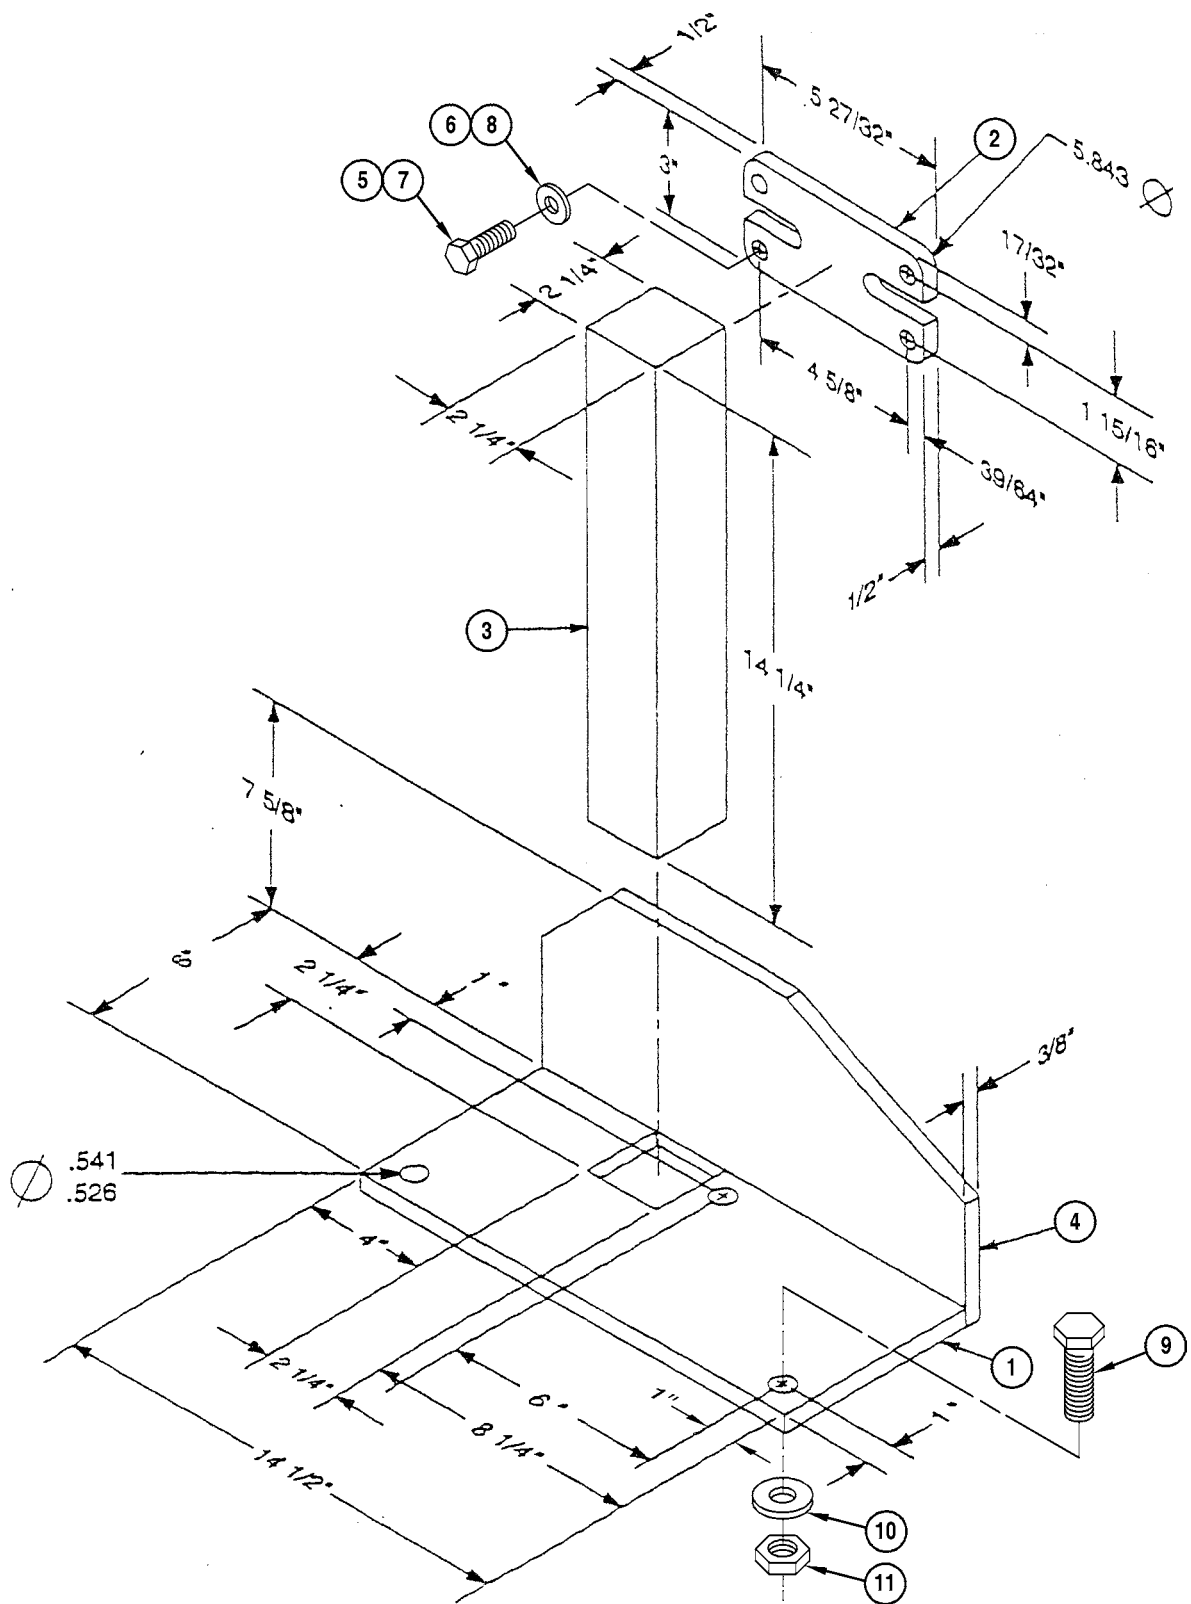

Figure 2-27. Transmission Stall Test Tool
1. Cut one 6- by 14-1/2- by 3/8-inch steel plate (1). Scribe a line 8-1/4 inches from the end of plate (1). Scribe another line 2-1/4 inches from the first scribe line. See Figure 2-27.
2. Scribe a line 2-1/4 inches from the side of 3/8-inch steel plate (1). See Figure 2-27.
3. Cut 2-1/4-inch square where scribed lines meet on 3/8-inch steel plate (1).
4. Drill a 17/32-inch hole next to the square one inch from the side and six inches from the end of 3/8 inch steel plate (1).
5. Drill two 17/32 inch holes one inch from the end and one inch from the side of 3/8-inch steel plate (1). See Figure 2-27.
6. Cut 7-5/8- by 14-1/2- by 3/8-inch steel plate (4). Cut the corners of as shown in Figure 2-27.
7. Weld 3/8-inch steel plates (1) and (4) per Figure 2-27.
8. Make a 3- by 5-27/32-inch plate (2). Drill four holes and round off corners to match the transmission yoke. See Figure 2-27.
9. Cut 2-1/4 inch by 2-1/4 inch block steel (3) 14-1/4 inch long. See Figure 2-27.
10. Weld 1/2-inch steel plate (2) to end of 2-1/4 inch block steel (3) at the same height as the transmission yoke.
11. Weld 2-1/4 inch block steel (3) after inserting into square in 3/8-inch steel plate (1).